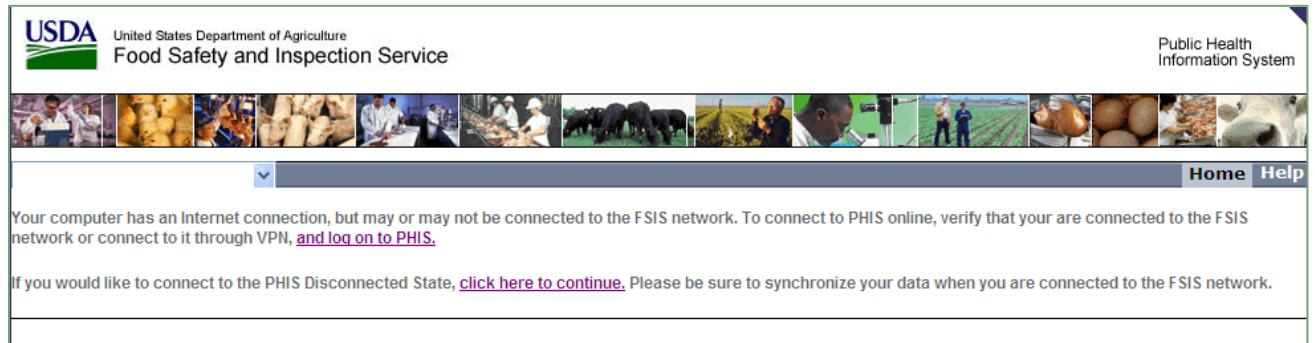

Figure 9: PHIS Transfer Page
4. When the process is complete, the PHIS Data Synchronization Application and the PHIS offline application will open. Since you are still connected to the FSIS Network, the PHIS Transfer page will open (see Figure 9: PHIS Transfer Page).